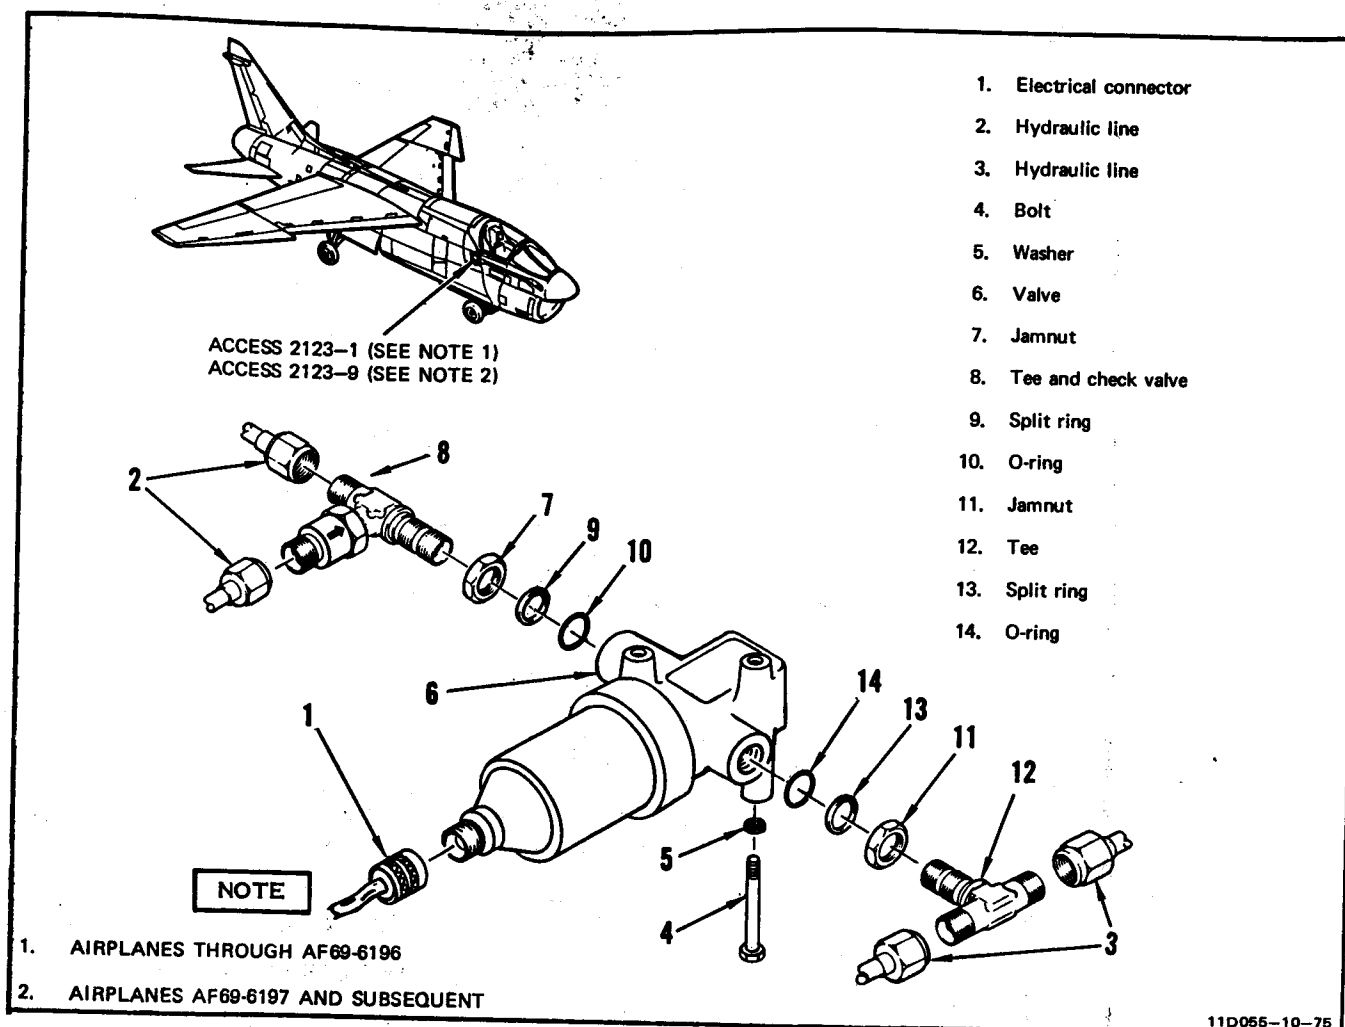

Figure 7-19. Emergency Power Package Shutoff Valve Removal and Installation
**7-50. REMOVAL. (See figure 7-19.)**
g. Disconnect electrical connector (1) from valve.
7-51. INSTALLATION. (See figure 7-19.)